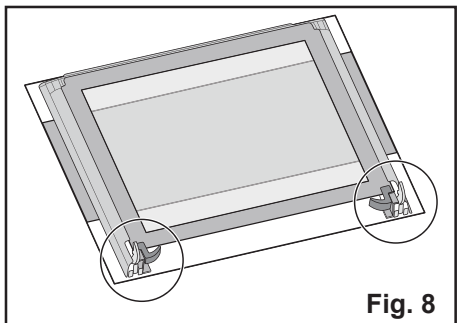

Fig. 8
6. place the door on a stable surface protected by a soft cloth to prevent the handle surface from being damaged (Fig. 8);